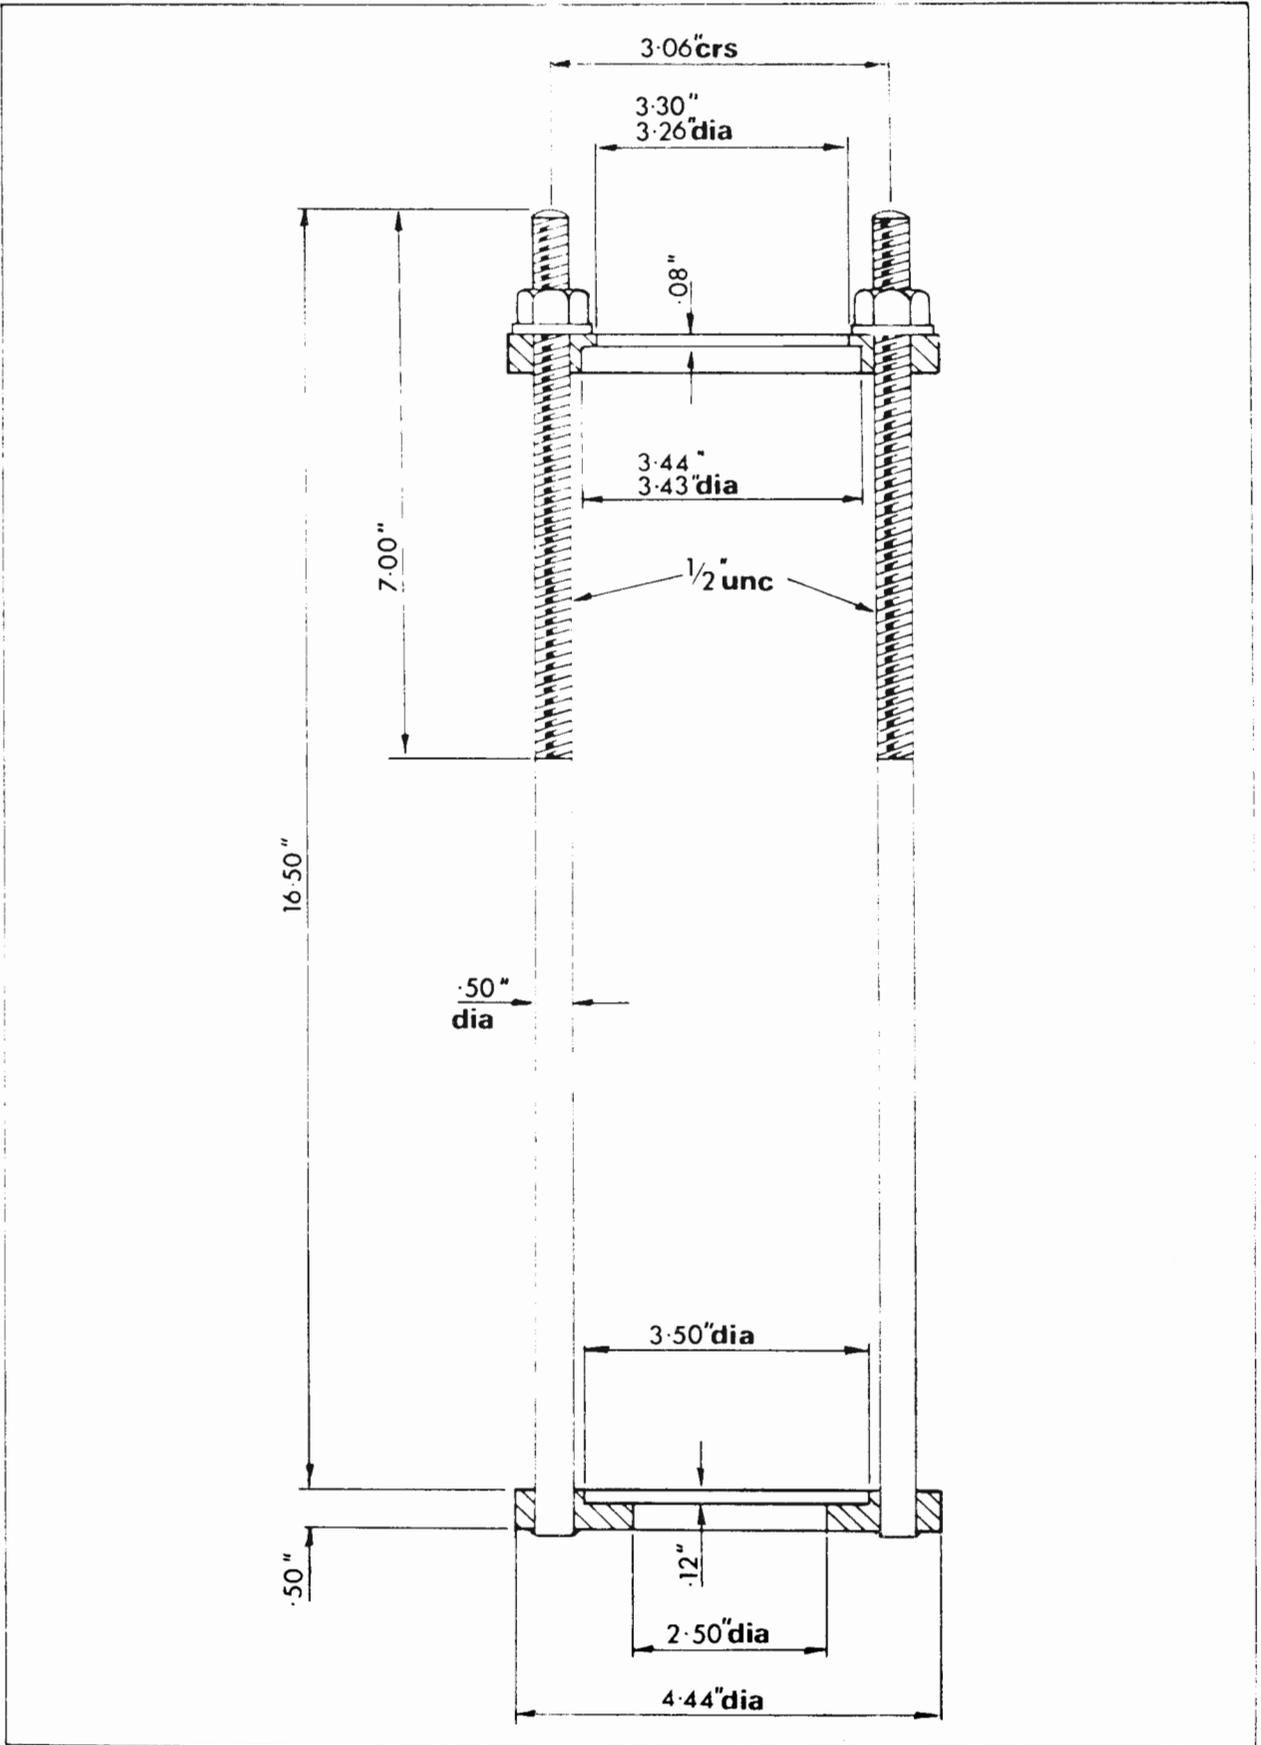

Fig. C.12 TOOL FOR REMOVING ROAD SPRING FROM DAMPER
6. To separate spring from damper, compress spring and withdraw split collets using special tool shown in Fig. C.12. The dampers are sealed units and when defective they must be replaced with new units.